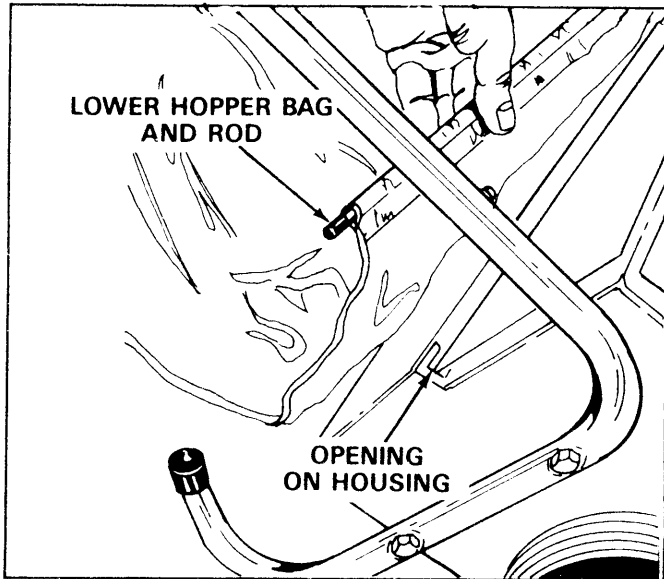

FIGURE 9
- Place the lower hopper bag and bag rod into the opening on the sweeper housing. See figure 9.